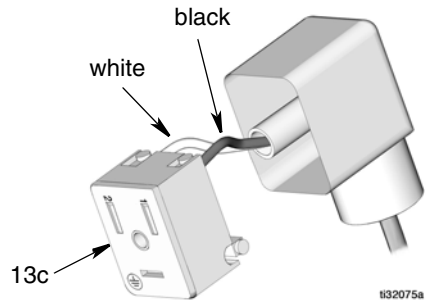

**FIG. 6**
- Loosen screw (13a) on the back of the mini DIN solenoid connector (14a) and disconnect it from the solenoid connector (14a) (FIG. 6).